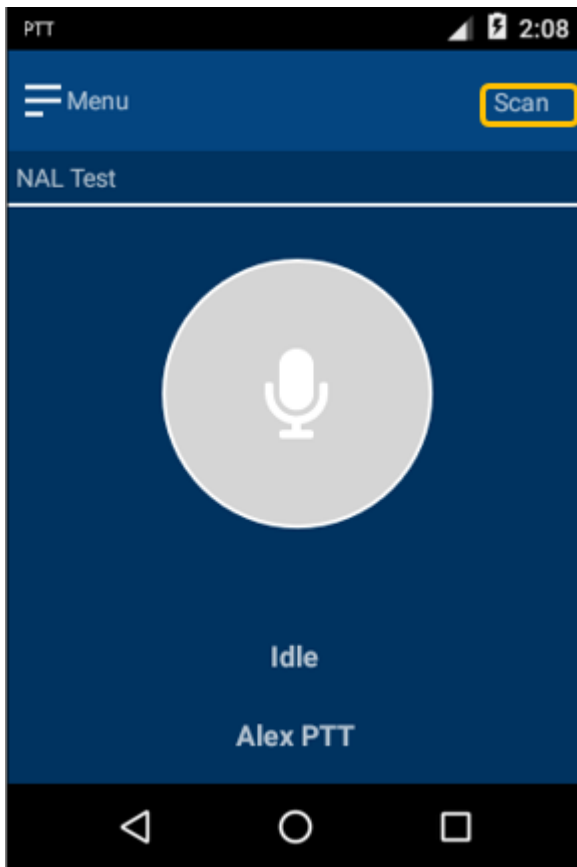

Figure 105: PTT Idle
Each time the app launches and the PTT mode is selected, the device goes through a registration process while connecting to the Iridium network. Once the device has been registered, the name of first talkgroup appears under the menu button, as highlighted in **Figure 105** below. If there is no activity in the current talkgroup by any of its members, the device status is *Idle* and the microphone circle icon displays with a gray background. The microphone circle icon changes to an exclamation point circle icon when the device's 'Priority Talkgroup' is being monitored.
- Press the **Scan** button to scan all of your active talkgroups for a configurable period (see **Figure 105**). The active talkgroup name appears under the menu button.